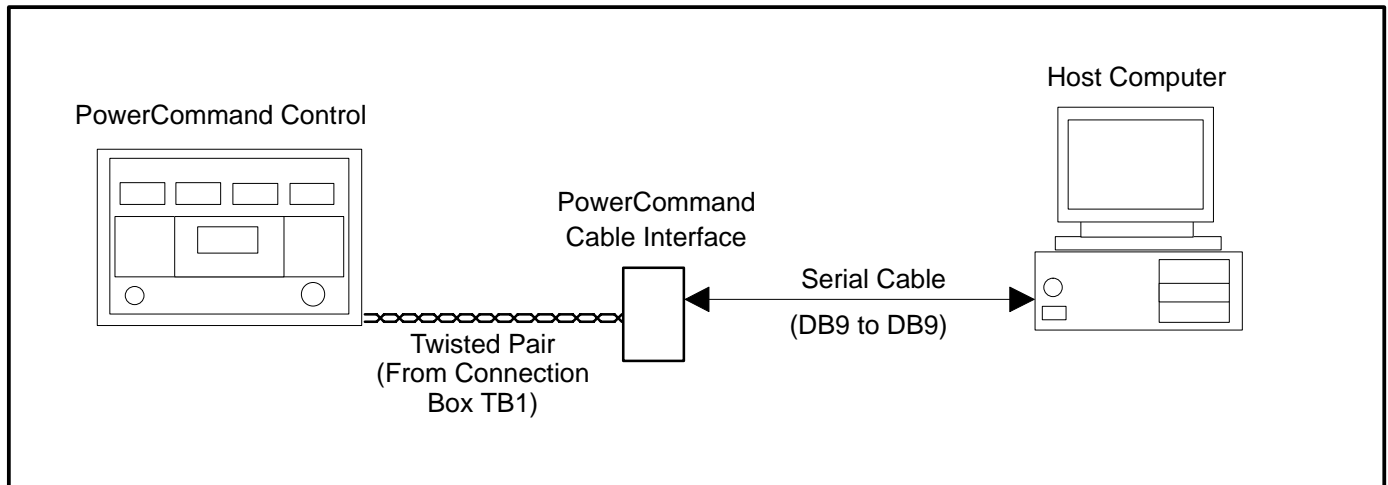

FIGURE 2-1. DIRECT SERIAL COMMUNICATION
The PCC has the means of reporting alarm events as they transpire. When enabled, it is an event-driven real-time alarm reporting protocol. This means anytime the PCC senses a warning or fault, it has the ability to initiate communications to report the event to the host. This is accomplished either through remote connections via a modem or a direct serial link. Refer to Figures 2-1 and 2-2.
1. The PCC is directly connected through a PC serial port (direct serial connection). Figure 2-1.
The Serial Cable Interface Board is used to provide a DB9 cable connection. This connection can be used for either direct serial communication with a host computer or for remote serial communication via a modem (Figures 2-1 and 2-2).